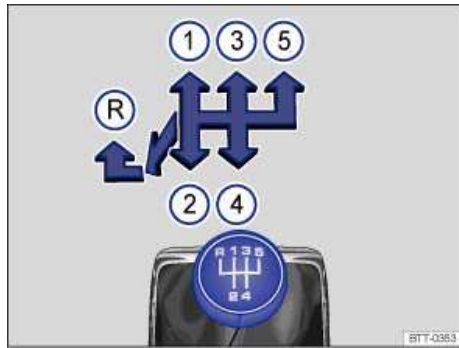
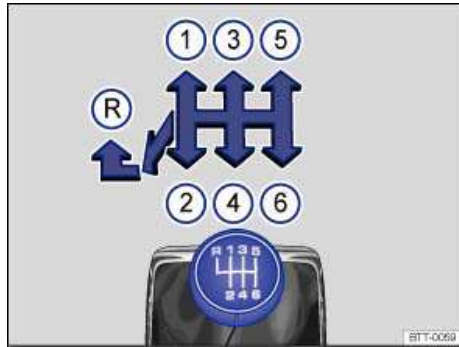

Fig. 117 Gearshift pattern of a 5-speed manual transmission.
Fig. 118 Gearshift pattern of a 6-speed manual transmission.
The positions of the individual gears are shown on the gearshift lever ⇒ fig. 117 or ⇒ fig. 118.
- Move the shift lever to the left and then push forward into the reverse gear position ⇒ fig. 117 \(R\) or ⇒ fig. 118 \(R\).